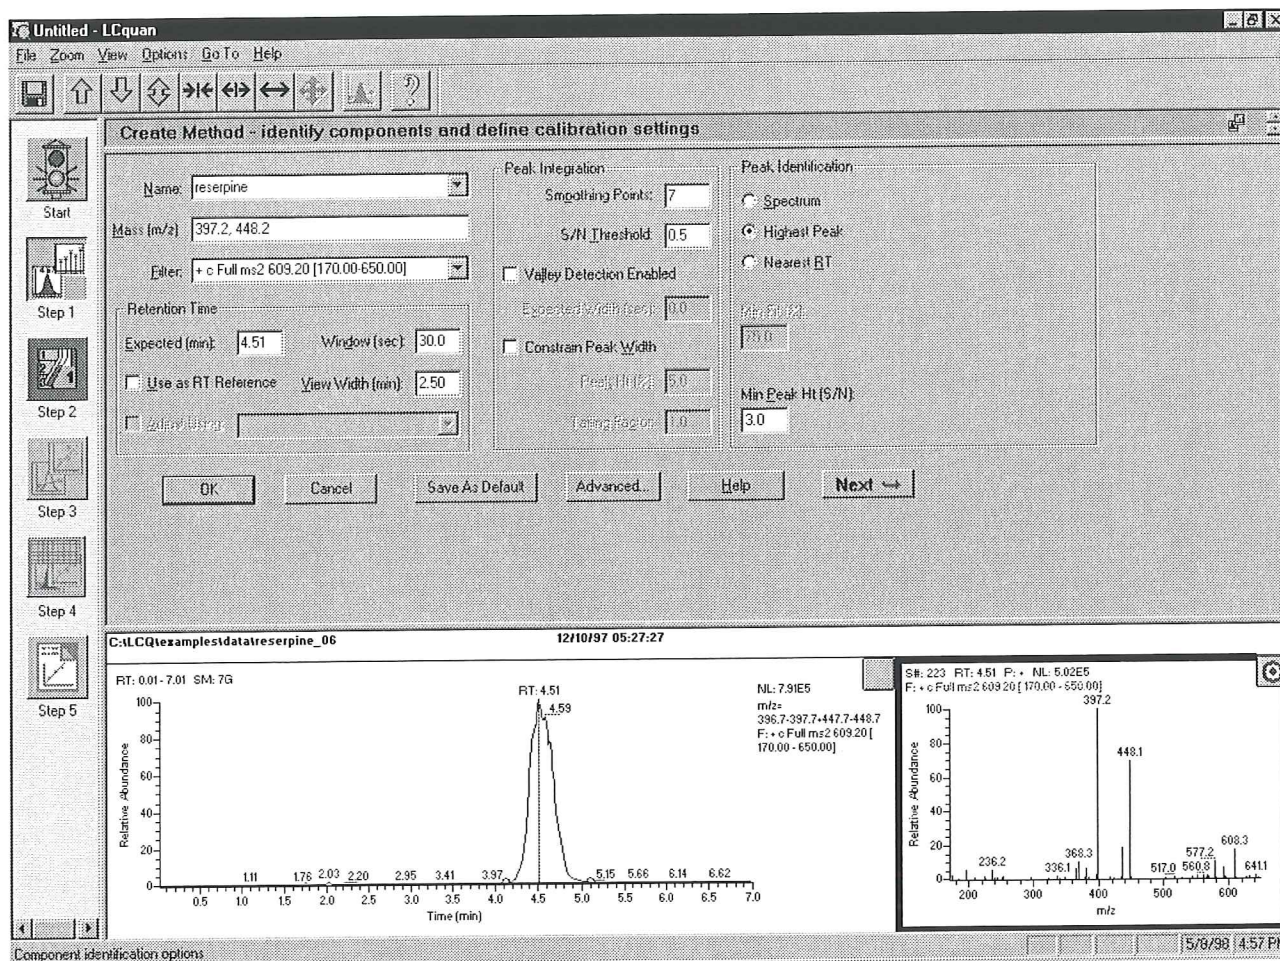

Figure 8-8. Create Method - Identify Components view, showing a marker (vertical line) indicating the retention time corresponding to the peak maximum
- e. Release the mouse button, and the following events occur automatically (see Figure 8-8):